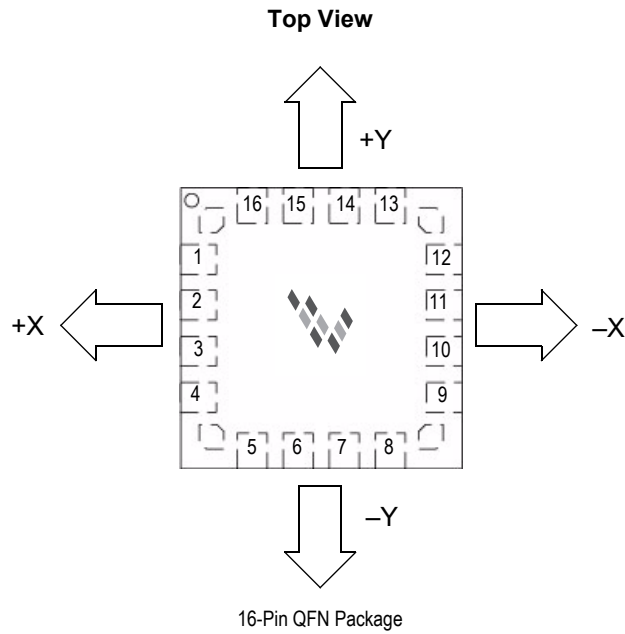

**Figure 6. Recommend PCB Layout for Interfacing Accelerometer to Microcontroller**
4. Place a ground plane beneath the accelerometer to reduce noise, the ground plane should be attached to all of the open ended terminals shown in Figure 6.